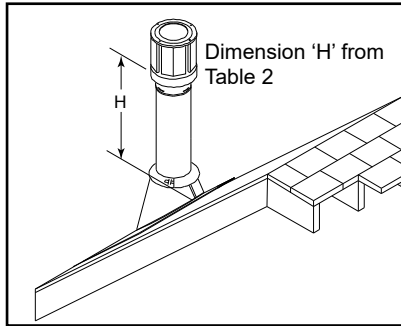

Figure 3.36
**Step 7** - Continue to add pipe sections until the height of the system (before adding the cap) meets the minimum building codes requirements as described in Table 2, Figure 3.36. Note that for steep roof pitches, the vent height must be increased. In high wind conditions, nearby trees, adjoining rooflines, steep pitched roofs and other similar factors can result in poor draft, or down drafting.